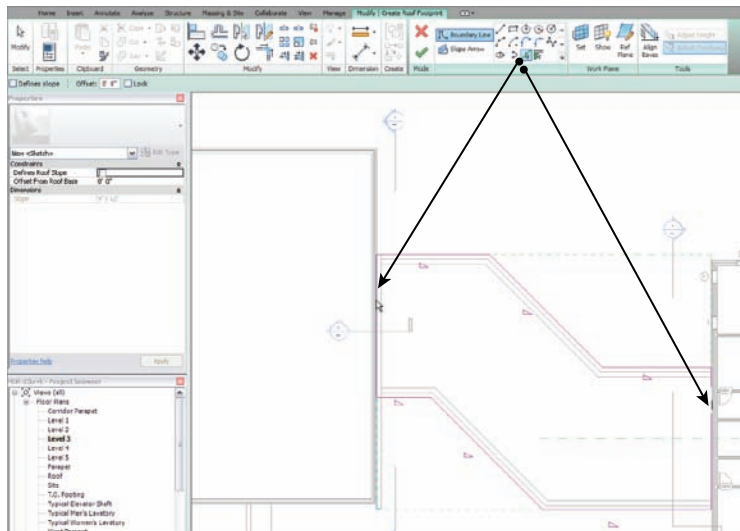

FIGURE 7.24 You must pick lines to trace the terminating walls of the roof.
1. Click the Boundary Line button on the Draw panel, as shown in Figure 7.24.
4. For the offset, enter 0 (see Figure 7.24).
5. Pick the east wall of the west wing, and the west wall of the east wing, as shown in Figure 7.24.